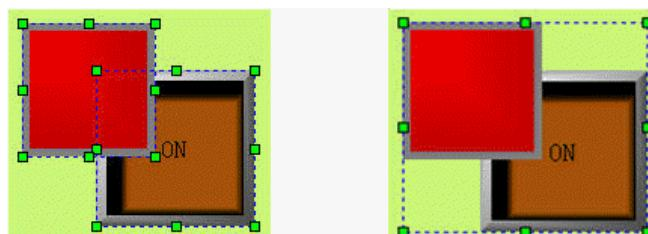

Figure 4-6: Contrast before and after assembling
- First, choose the graph objects to be assembled, then press “Assemble” command in the Edit menu, or button in the tool bar, or call the right click menu and choose Assemble command in the Assemble option. Figure 4-6 shows the contrast before and after assembling.